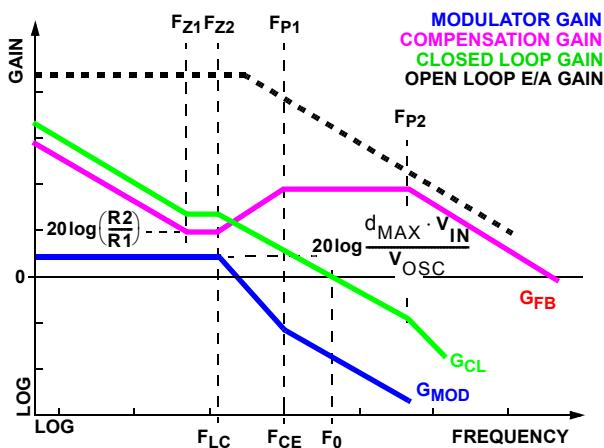

FIGURE 10. ASYMPTOTIC BODE PLOT OF CONVERTER GAIN
Figure 10 shows an asymptotic plot of the Buck converter's gain vs. frequency. The actual modulator gain has a high gain peak dependent on the quality factor (Q) of the output filter, which is not shown. Using the above guidelines should yield a compensation gain similar to the curve plotted. The open loop error amplifier gain bounds the compensation gain. Check the compensation gain at  $F_{P2}$  against the capabilities of the error amplifier. The closed loop gain,  $G_{CL}$ , is constructed on the log-log graph of Figure 10 by adding the modulator gain,  $G_{MOD}$  (in dB), to the feedback compensation gain,  $G_{FB}$  (in dB). This is equivalent to multiplying the modulator transfer function and the compensation transfer function and then plotting the resulting gain.